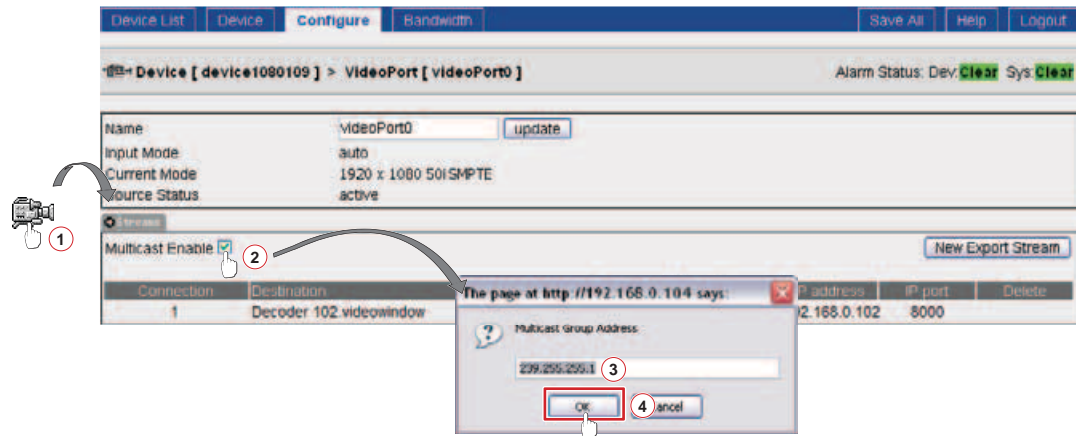

Figure 21. Encoder Configuration
2. Click the video encoder icon that appears in the configuration box after you have created a source in “**Configure Encoders and Decoders**”, step 3 (① in **figure 21**). The video encoder Configuration appears.
3. Click (select) the **Multicast Enable** check box (② in **figure 21**). The Multicast Group Address dialog box appears, providing a default multicast group address.
4. Change the multicast group address to the value required for the system in use (③ in **figure 21**).
5. Click the **OK** button (④ in **figure 21**).